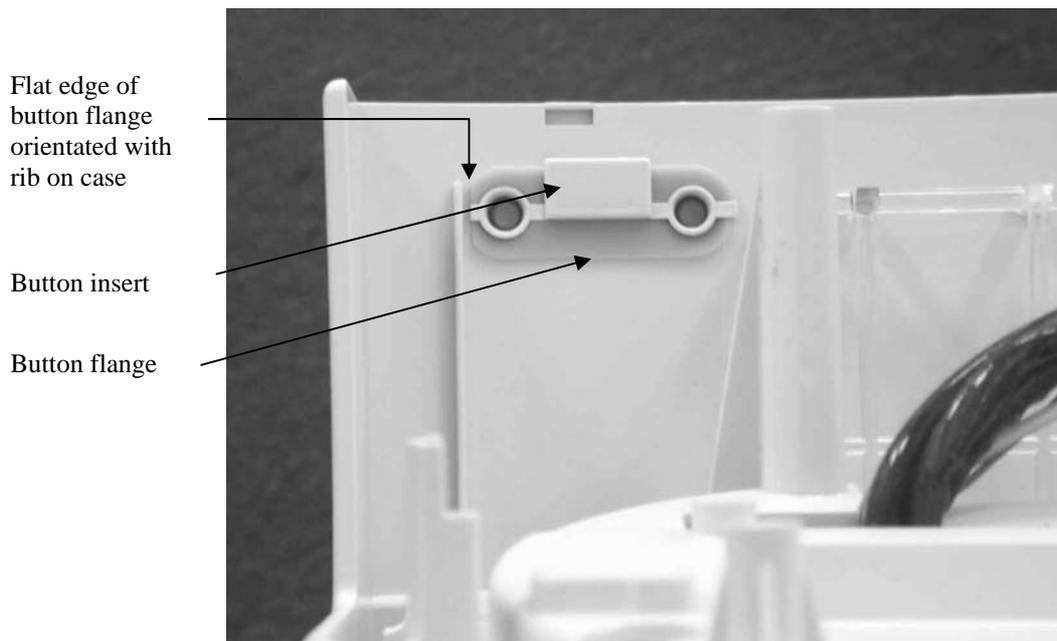

Figure 6.11: Orientation of button flange and button insert
3. To install the new push button: orient the flat edge of the button flange with the rib on the case (the buttons are designed to go in one way only). Now press the push button through the holes from inside the case (Figure 6.11).
4. Orient the short side of the button retainer to the rib side of the case with the tab protruding towards the base of the upper case. Insert the button retainer into the rear of the silicone buttons (Figure 6.11).